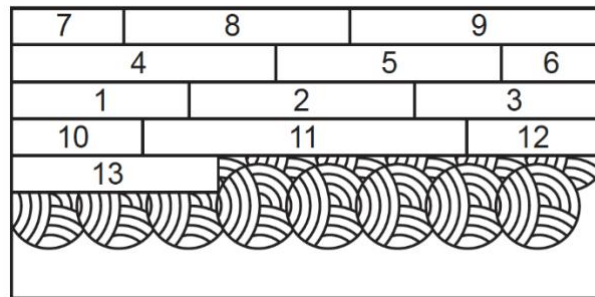

Figure 10D
- Be sure not to spread adhesive too far ahead of your work area (**Figure 10D**).